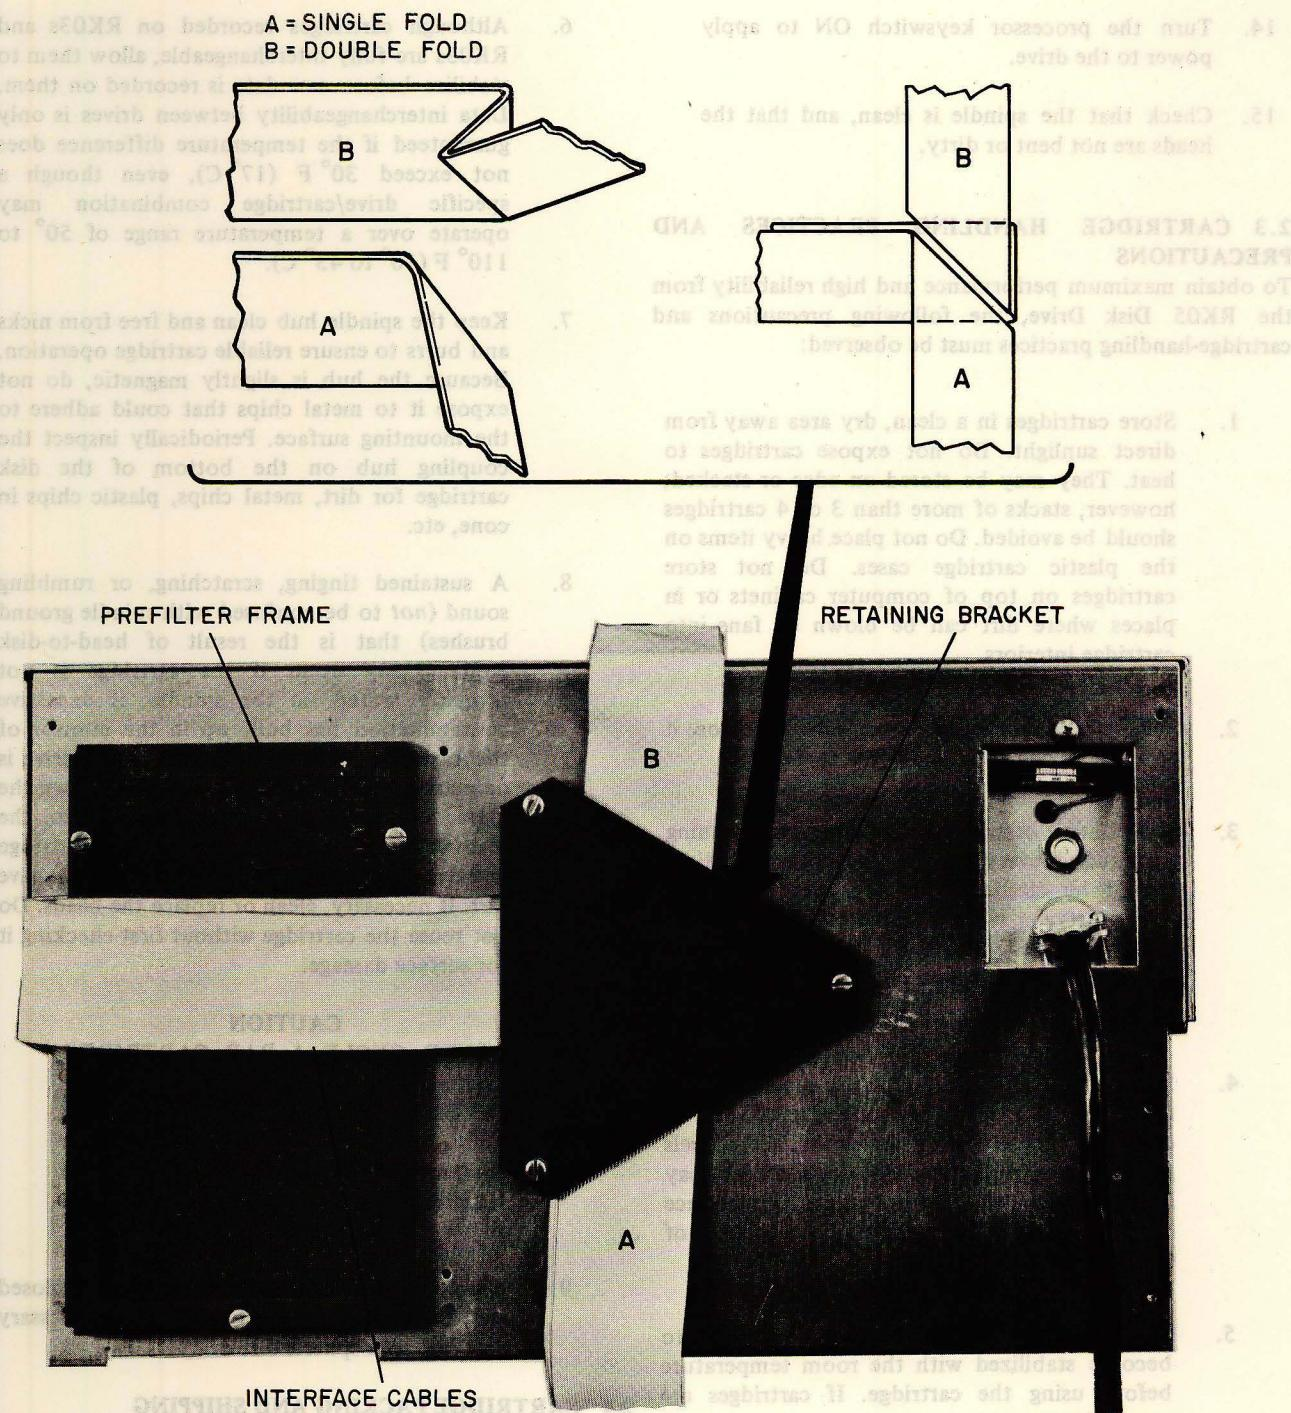

Figure 2-4 RK8/E Interface Cable Installation
- b. Route the interface cables through the prefilter opening and reinstall the filter and frame so that the cables fit into the slot on the side of the frame (Figure 2-4).
- c. Route the cables over the prefilter and fold them as indicated in Figure 2-4.
- a. Fold the interface cables and route them through the slot just below the prefilter at the rear of the drive cabinet (Figure 2-4).